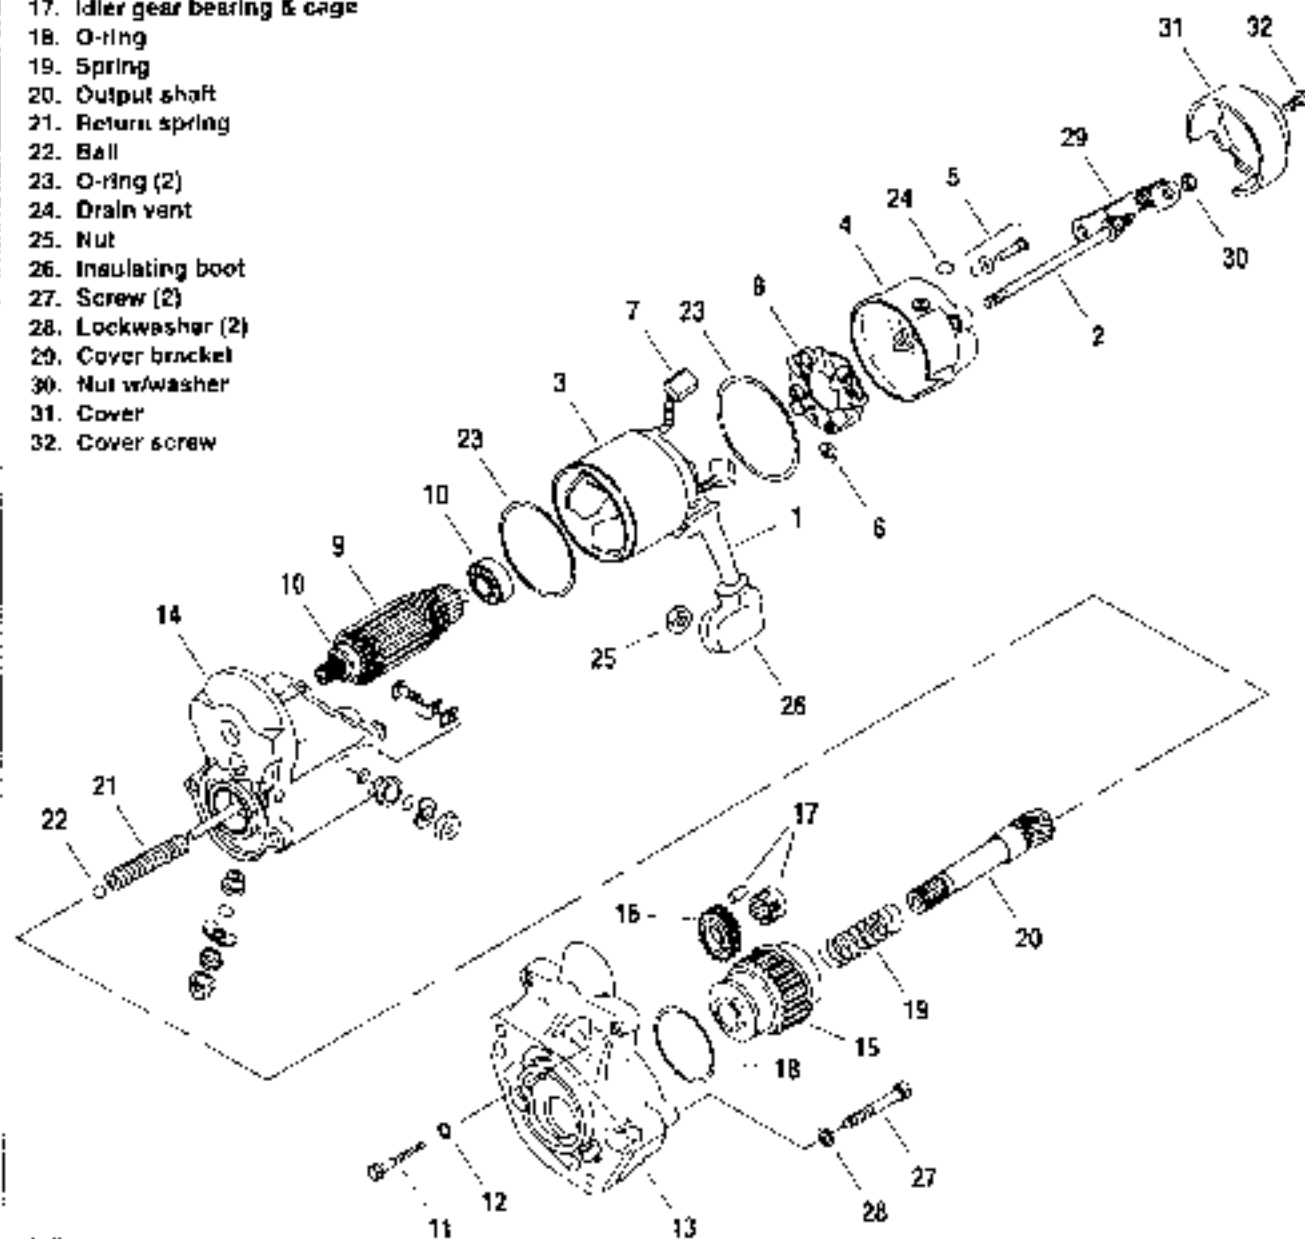

Figure 5-25. Starter Assembly
1. See Figure 5-25. Replace both O-rings (23).